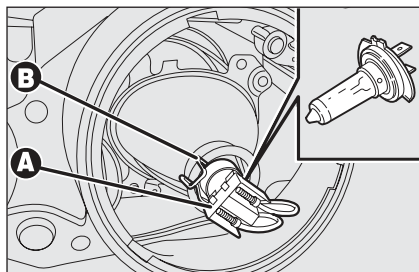

fig. 29
- ☐ disconnect the electric connector **A-fig. 29**;
- ☐ fit the new bulb and refit bulb holder catch **B-fig. 29**;